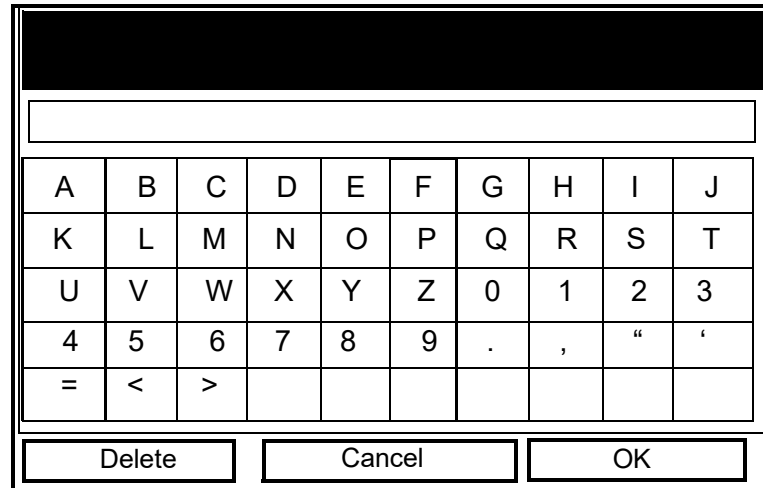

Figure 65: The Text Creation Window
- a. Press **[ENTER]** to open the text creation window, which appears similar to Figure 65 below.